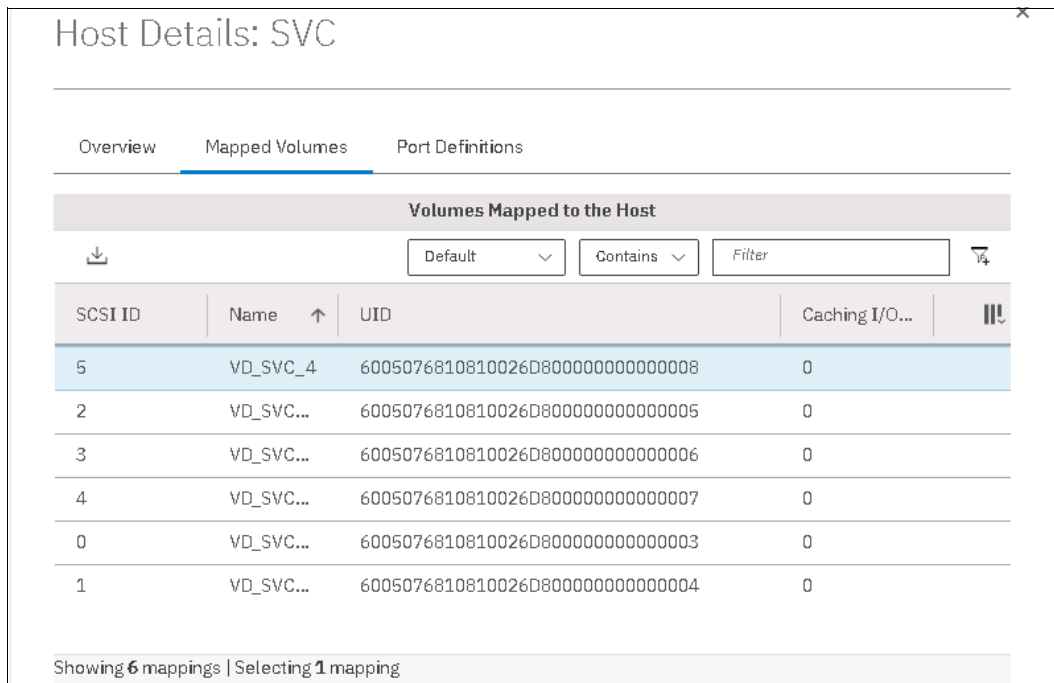

Figure 4-14 FlashSystem volume details for host maps
2. On the Host Maps tab, check the SCSI ID number for the specific volume, as shown in Figure 4-14. This value is used to match the virtualizer ctrl_LUN_# (in hexadecimal format).